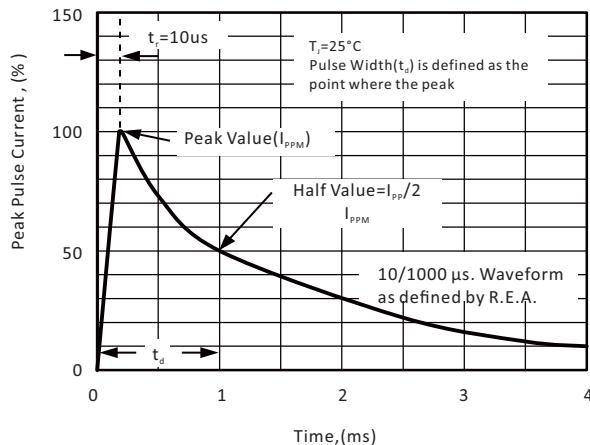
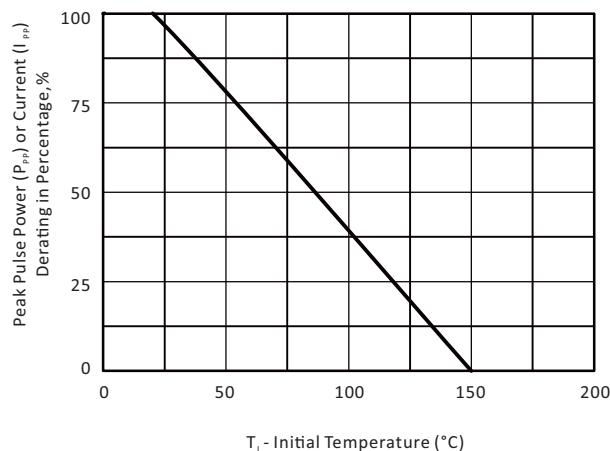

Fig. 3 - Pulse Waveform
Fig. 2 - Pulse Power or Current vs. Initial Junction Temperature
(1) Non-repetitive current pulse, per fig. 3 and derated above $T_A = 25^\circ\text{C}$ per fig. 2
(2) Measured on 8.3 ms single half sine-wave, or equivalent square wave, duty cycle = 4 pulses per minute maximum
(3) Pulse test: 300 μ s pulse width, 1 % duty cycle
- (1) V_{BR} measured after I_T applied for 300 μs , I_T = square wave pulse or equivalent
- (2) Surge current waveform per fig. 3 and derated per fig. 2
- (3) To calculate V_{BR} vs. junction temperature, use the following formula: V_{BR} at T_J = V_{BR} at 25 $^\circ\text{C}$ $\times (1 + \alpha T \times (T_J - 25))$